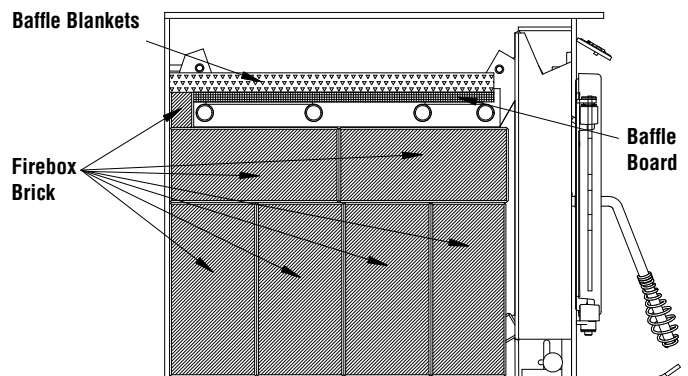

Figure 4
2. Next, you will install the baffle boards. All 4 baffle boards included are the same size (15-1/2" X 6-3/16"). You will start by installing the boards in the center part of the unit on top of the secondary tubes to each side of the baffle support with the 15-1/2" side of the baffle board going from the front to back of the unit. Once you have the first two boards installed slide the board to the left side of the baffle support all the way to the left and rear of the unit. You will slide the board to the right side of the secondary support to the right and rear of the unit. Next you will install the two remaining boards where you originally installed the first two boards on each side of the baffle support and pushed against the rear of the unit. The stainless steel support hanger should be centered left to right between the sets of baffle boards and placed as shown in **Figure 4**.